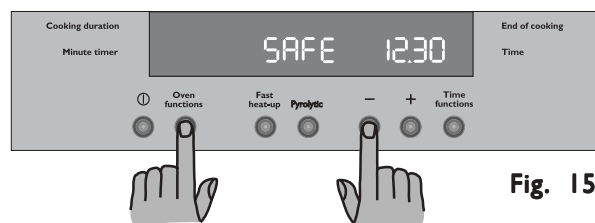

Fig. 15
- 1) Turn off the oven by pressing button ①.
- 2) Press Oven functions and "—" buttons at the same time and keep them pressed for about 3 seconds. An acoustic signal will be emitted and the indication 'SAFE' will appear on the display (Fig. 15).